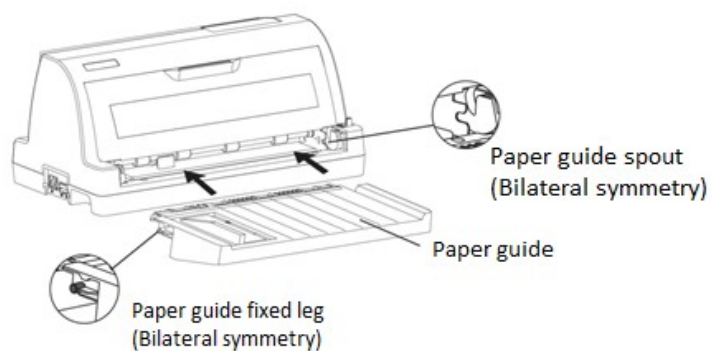

Fig. 1-10
- 2) Insert the paper guide into the rack as Fig. 1-10 shows.